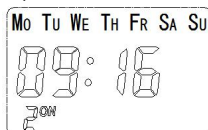

Figure10
4.2.3.3 Set 2ON (second group of bell) time:same steps as 4.2.3.2, such as Figure10.